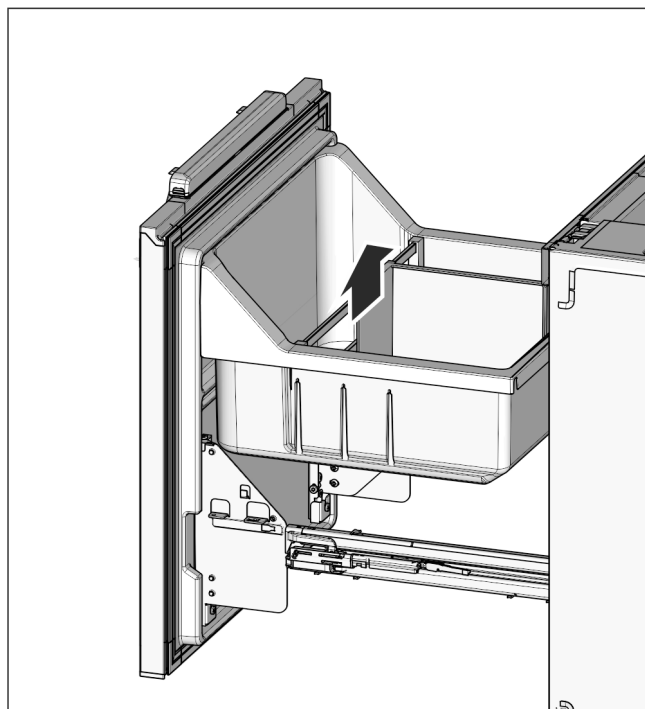

Fig. 29
- ▶ Reinsert the bottle shelf *Fig. 29 (32)* and the pull-out tray *Fig. 29 (31)*.